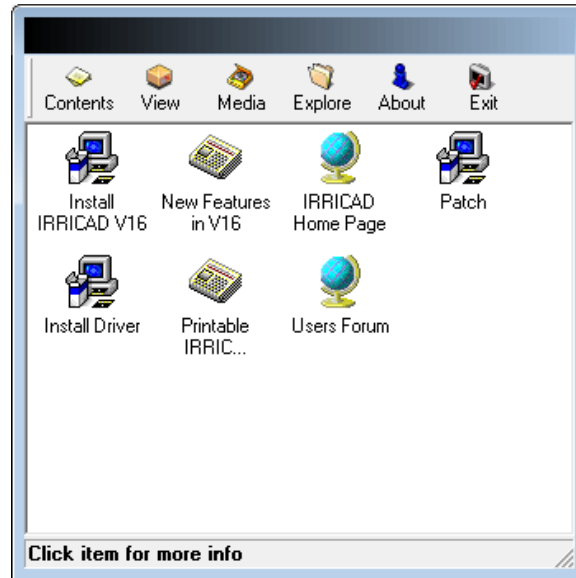

Figure 1-1
2. Place the CD in the CD-ROM drive. An Autorun executable should automatically show a dialog containing icons, as seen in Figure 1.1. If not, browse the CD using My Computer or Windows Explorer for the "Autorun.exe" located in the Autorun folder. Alternatively download the required installation file from the IRRICAD website and save to your hard-drive..